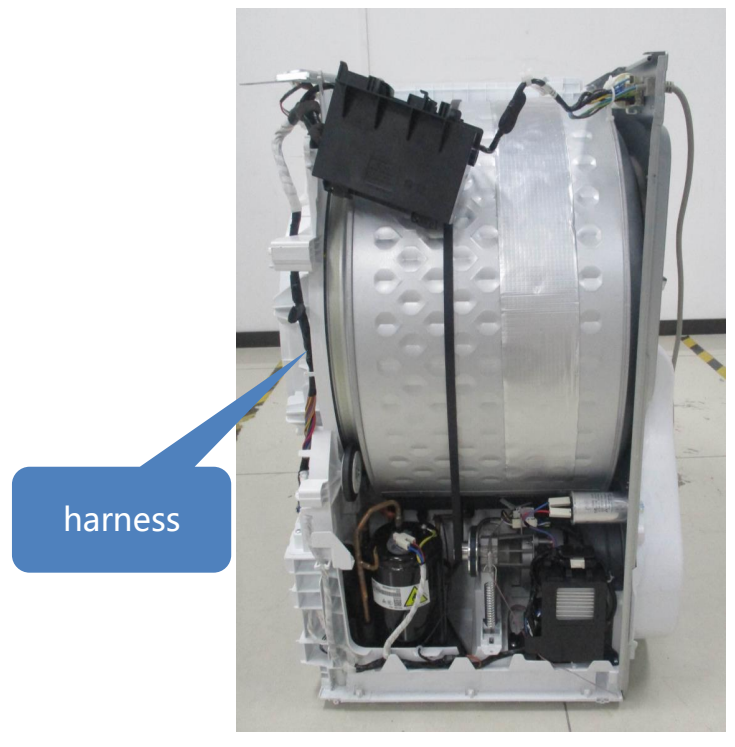

Fig.10
- ⑥ Use a multimeter to test if the wiring harness connecting the motor and the PCB is functioning properly. (Fig.10)
- ⑦ Check whether the PCB and motor communication terminal is damaged, if it' s damaged , The motor will not be able to operate normally. It' s recommended to repair or change the PCB or motor.
- ⑧ If the motor communication terminal is ok, measured with a multimeter primary and secondary windings of the motor.